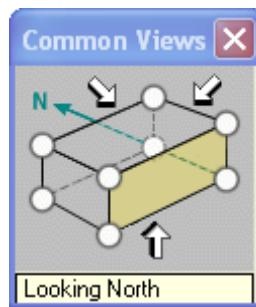

Figure 12. 15: Common Views: Looking North
2. Locate the **Eccentric Size Change** from the **Graphic View**, as shown in Figure 12. 16.